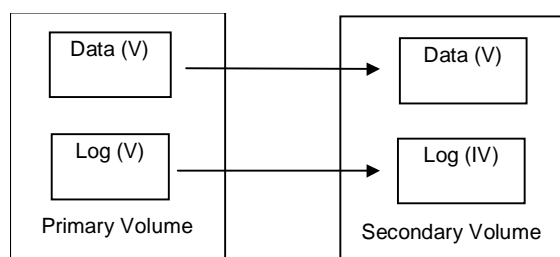

Figure 2.12 Relation between Logs and Data in Paired Status
Figure 2.12 shows the relations between redo log files (journal) and data files. If the S-VOL takes over from the P-VOL in the status shown in Figure 2.12 (where two errors have occurred), the secondary host leaves data (V) unprocessed in the roll-back processing and cannot be recovered completely. Therefore, the fence level of a redo log file must be defined as **data**. Once the fence level is set to **data**, the P-VOL returns an error if data may possibly be inconsistent when a write request is issued by the host. Since the writing into the data file has not been executed due to a write error of the redo log file, the log file stays consistent with the data file. However, when the fence level is set to **data**, a write I/O error occurs even in the case where operation is suspended due to an error in the S-VOL. Accordingly, the duplication becomes meaningless when the S-VOL takes over. Thus, applications using paired volumes with the **data** fence level should be able to handle write I/O errors properly. For example, Oracle creates multiple redo log files by itself (three by default). The fence level can be set to **data** in this case in which disk errors are permissible by creating multiple file.